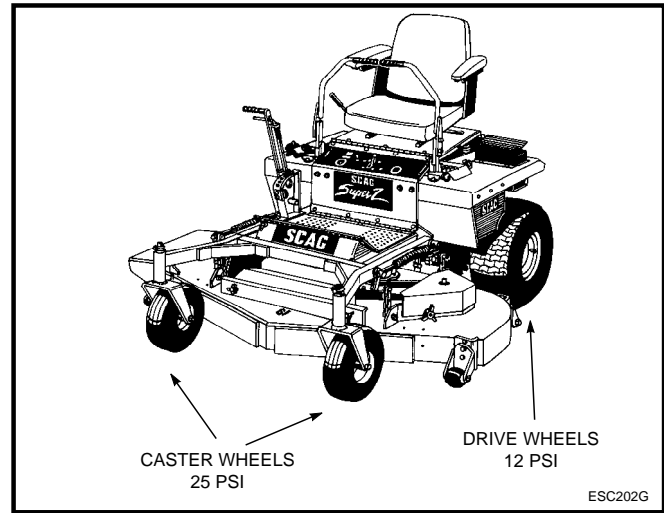

Figure 3
1. Before making this adjustment, check the tire pressure of the drive wheels. Tire pressure for each wheel must be equal. (See Figure 3) If the tire pressures are not equal, the machine will pull to the side with the lower tire pressure.